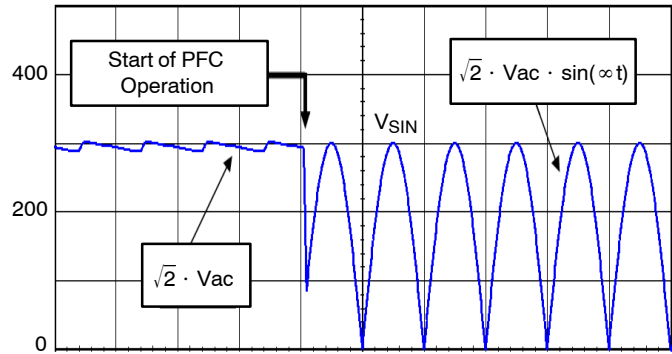

Figure 69. Typical Input Voltage of a PFC Stage
i.e., about 64% of the previous value. Therefore, the same line magnitude leads to a V_{Pin2} voltage that is 36% lower when the PFC is working than when it is off (refer to Figure 69). That is why the NCP1605 features a 50% hysteresis ($V_{BO L} = 50\% V_{BO H}$).